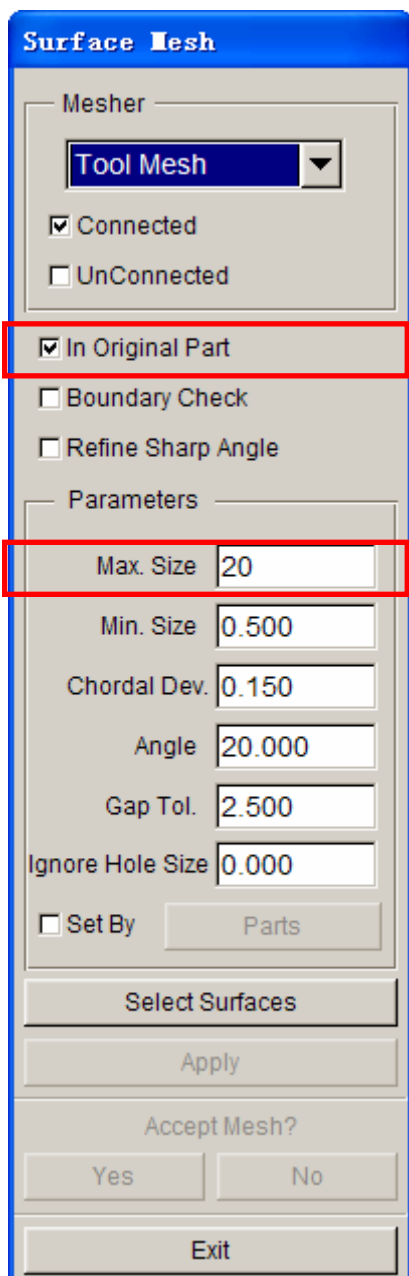

Figure 7 Surface Mesh dialog box
- The **Surface Mesh** dialog box is displayed. Toggle on the **In Original Part** option, and modify the **Max. Size** as **20**, as illustrated in Figure 7.